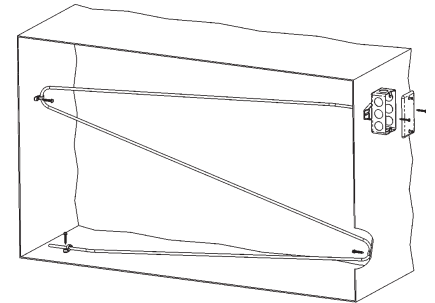
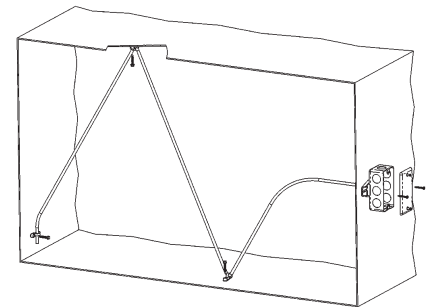
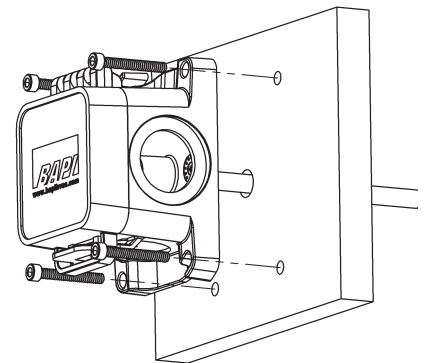

Fig 2: Flexible Sensor Horizontal Mount (Best for Vertical Stratification)
Fig 3: Flexible Sensor Vertical Mount (Best for Horizontal Stratification)
Fig. 4: BAPI-Box Crossover Mounting to the Duct
1. Place the sensor in the middle or top of the duct as shown in Fig 2 or Fig 3 so the flexible probe can enter the duct in a convenient place. Drill the probe and mounting holes as shown in Fig 4.